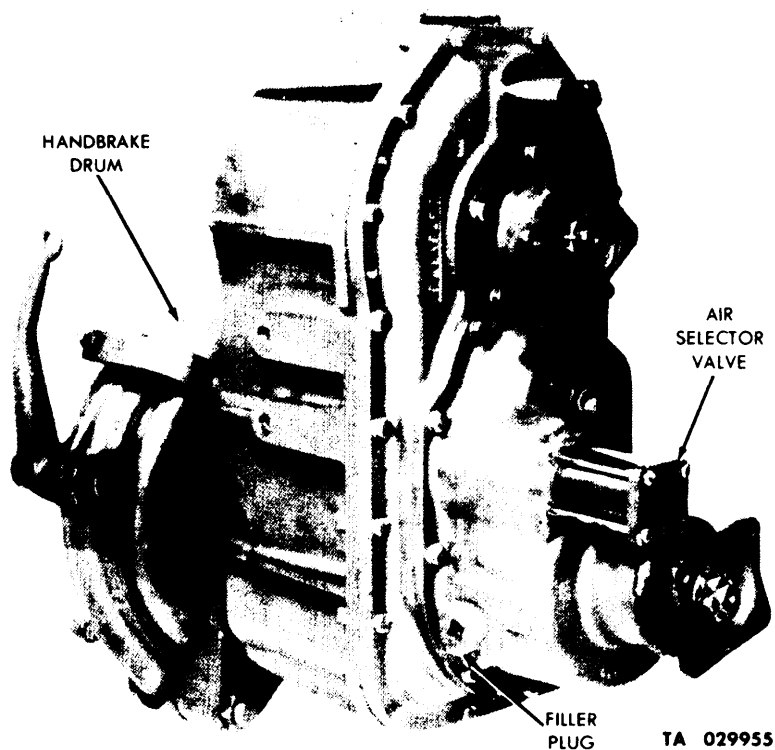

Figure 4-1. Positive Locking Transfer Model T-136-27 — Front View.
4-1. General. This chapter provides the repair instructions for positive locking transfer model T-136-27. (See fig. 4-1 and 4-2.)
a. Description. The positive locking transfer is a two-speed synchromesh unit with front and rear output shafts. The transfer unit is driven by the regular 5-speed transmission through a propeller shaft. Low or high gear selection through the transfer gives the truck a total of ten forward gears, and two reverse gears. With the operation of an air selector valve (fig. 4-1), the air locking assembly engages the front output shaft to the rear output shaft to drive the front axle. The transfer distributes the power to front and rear axles through the propeller shafts. The handbrake drum is mounted in the transfer rear output shaft companion flange. (See fig. 4-2.) The handbrake inner